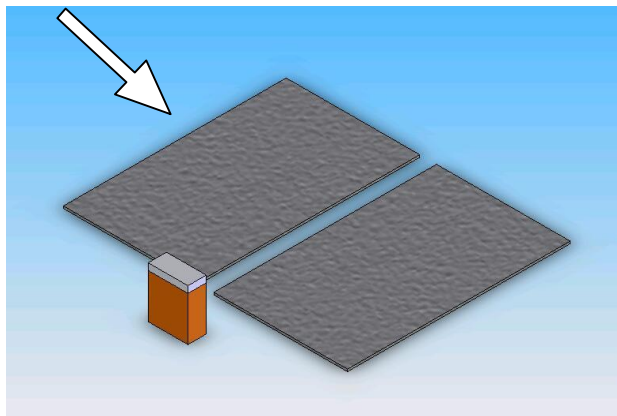

Figure 5: Critical backup setup
- 6.8 When it is critical that all tags be read and the environment is of such nature that effective read range cannot be obtained due to tuning limitations it is advised to place one timing mat behind the other effectively forming a second loop on which the same tag can be read. The backup mat format has proved so essential that this kind of setup is preferred under most conditions and is also used by competing RFID time keeping systems. Figure 5 below illustrates a typical setup of this format.